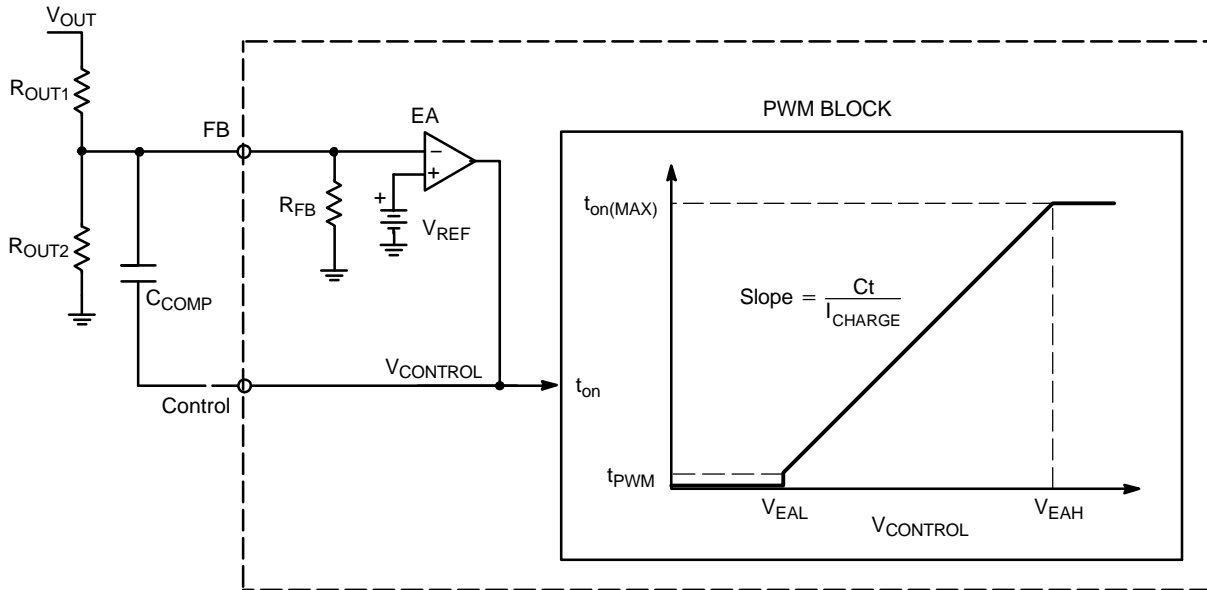

Figure 25. Error Amplifier and On Time Regulation Circuits
The NCP1607 is configured to regulate the boost output voltage based on its built in error amplifier (EA). The error amplifier's negative terminal is pinned out to FB, the positive terminal is tied to a  $2.5 \text{ V} \pm 1.6\%$  reference, and the output is pinned out to Control (Figure 25).